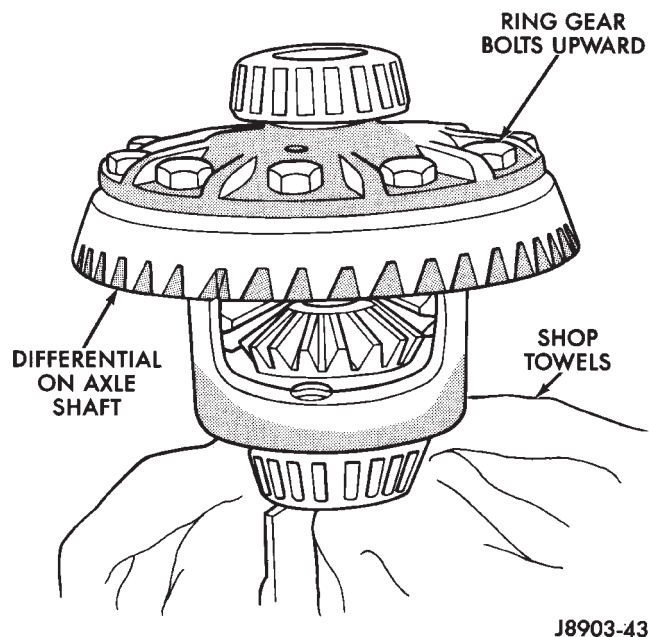

Fig. 41 Differential Case Holding Tool
- (1) Clamp Side Gear Holding Tool 6963 in a vise.
- (2) Position the differential case on the holding tool (Fig. 41). Place shop towels under the differential to avoid damage if removal of the ring gear is required (Fig. 41).